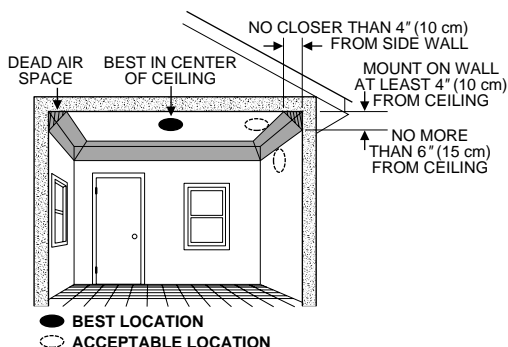

Figure 6. Smoke alarm mounting locations
- ❑ Install smoke alarms on the ceiling as close to the center of the room as possible. If this is not practical, install it on the ceiling no closer than 4 inches (10 cm) from any wall or corner (see figure 6).
- ❑ If ceiling mounting is not practical, install on an inside wall between 4 and 6 inches (10 and 15 cm) from the ceiling (see figure 6).